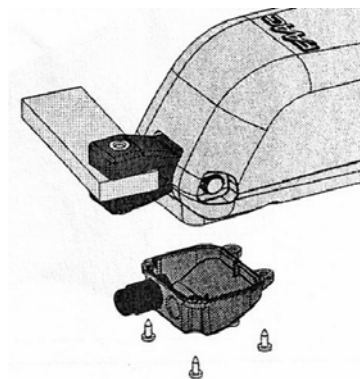

Figure 6. Attach the electric cable cover with two screws provided
Slide the cable/strain relief cover up the cables until flush with the 415 L LS Operator and secure the cover with the four (4) screws provided as shown in figure 6.